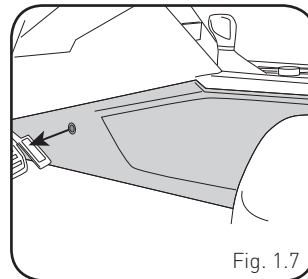

Fig. 1.7
- Remove single (1) T25 Torx screw located on driver side center console trim. Slide the trim down to release clips. (Fig. 1.7)